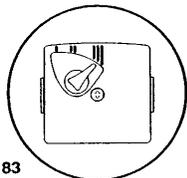

Fig. 83
11.21 Pump - Complete (Figs. 83 & 84).